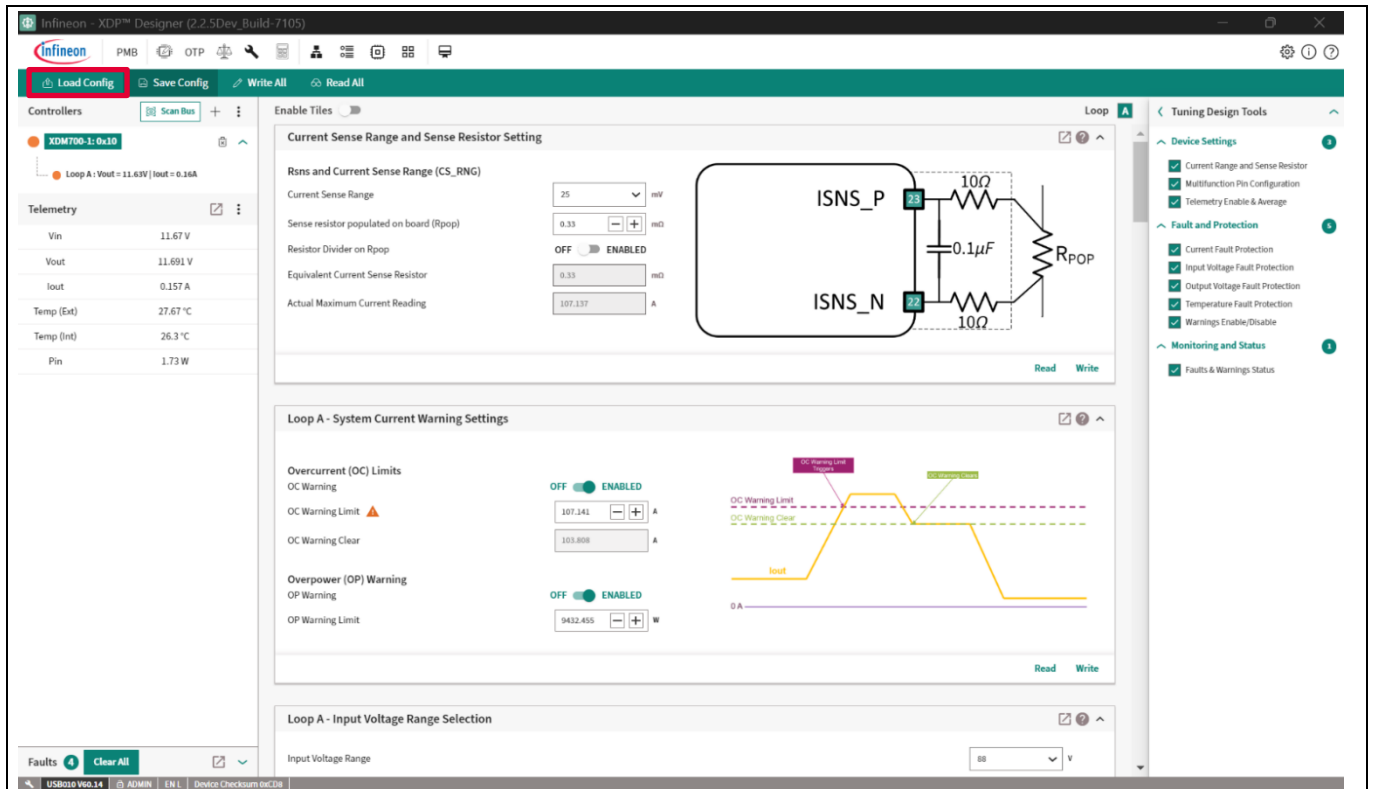

Figure 16 Select Load Config option
8. Click **Load Config**, as shown in Figure 16